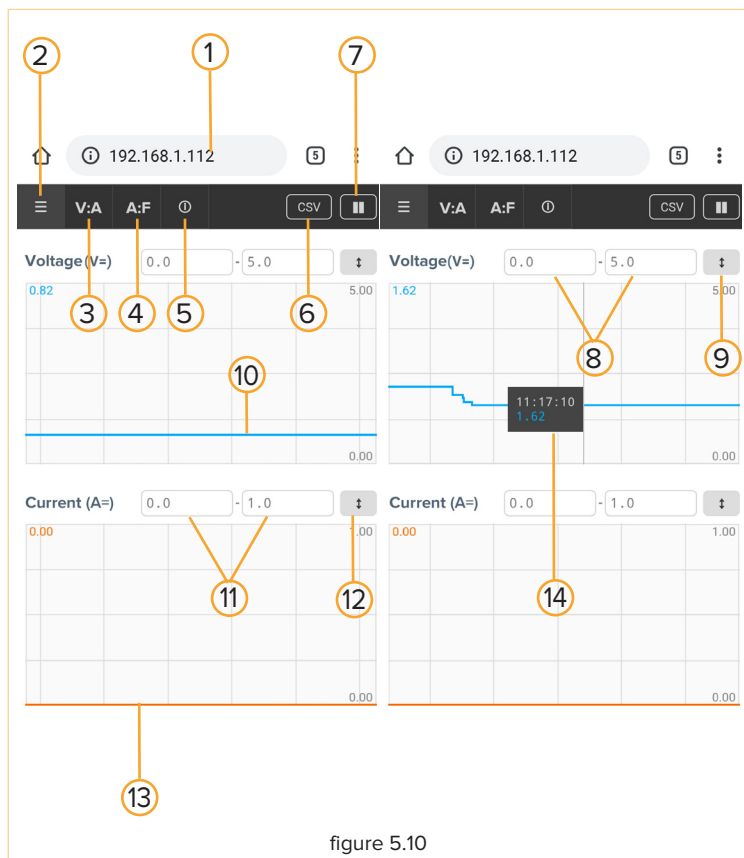

figure 5.10
- Connect to the PSU using its IP address and select VA (3 in Figure 5.10).